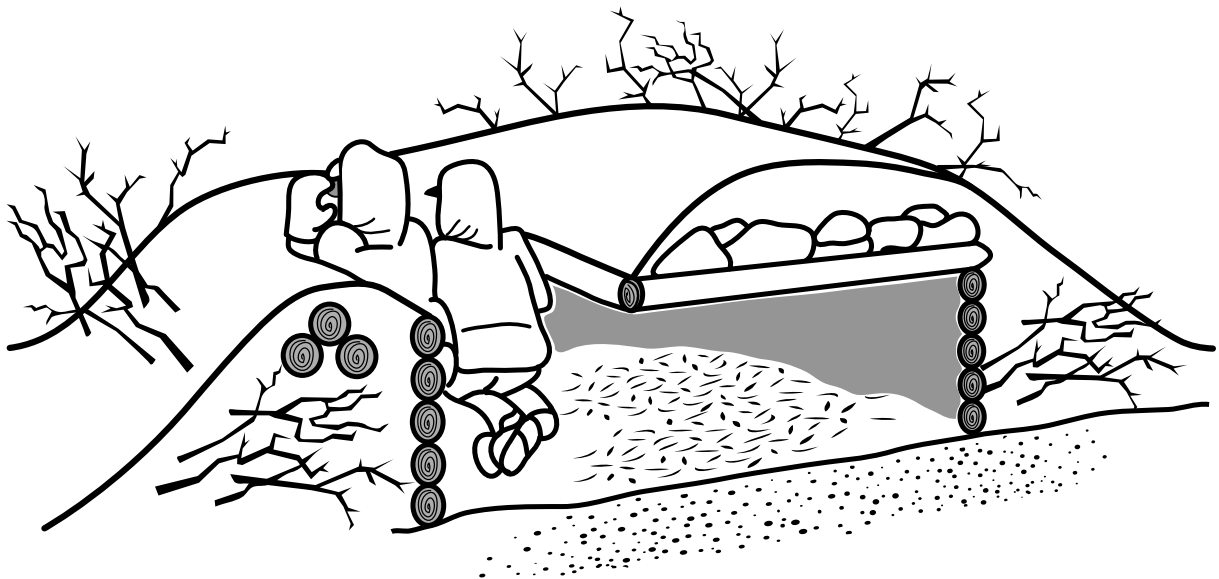

Figure 16-2. Camouflaged Position.
- The sides and ends of all trenches should have pronounced slopes and rounded edges to reduce shadows, as in Figure 16-2.